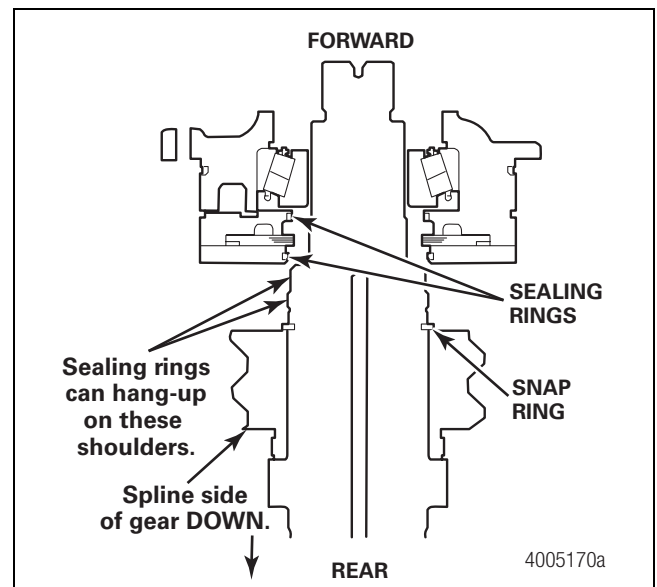

Figure 6.20
8. Lubricate the sealing rings on the inside diameter of the pump and the shaft journal adjacent to the pump splines. Figure 6.20.